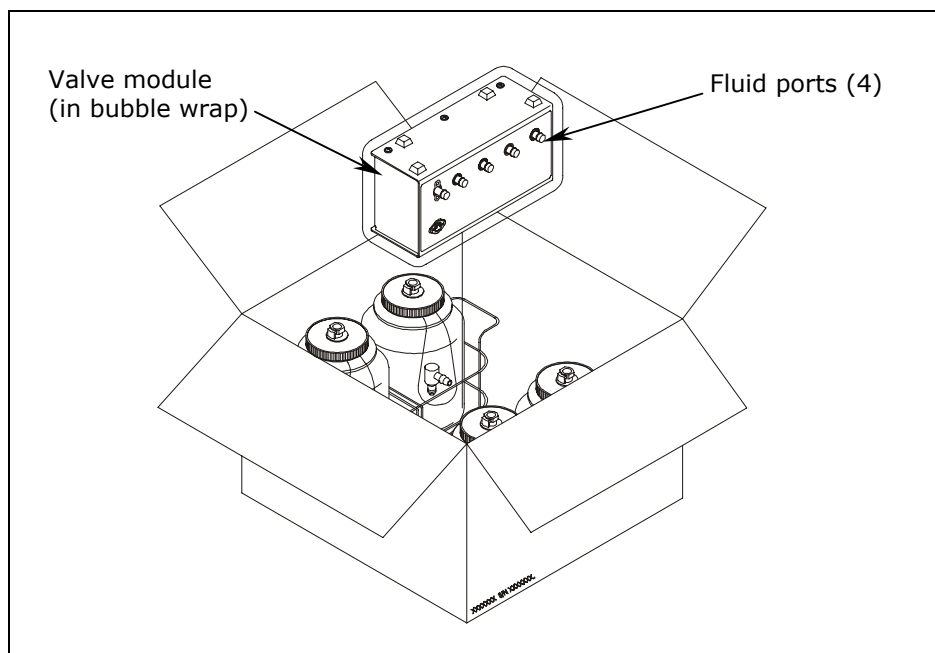

Figure 6: Removing the Valve Module From the Shipping Container
2. Lift out the valve module as shown in **Figure 6** and place it on a level surface.